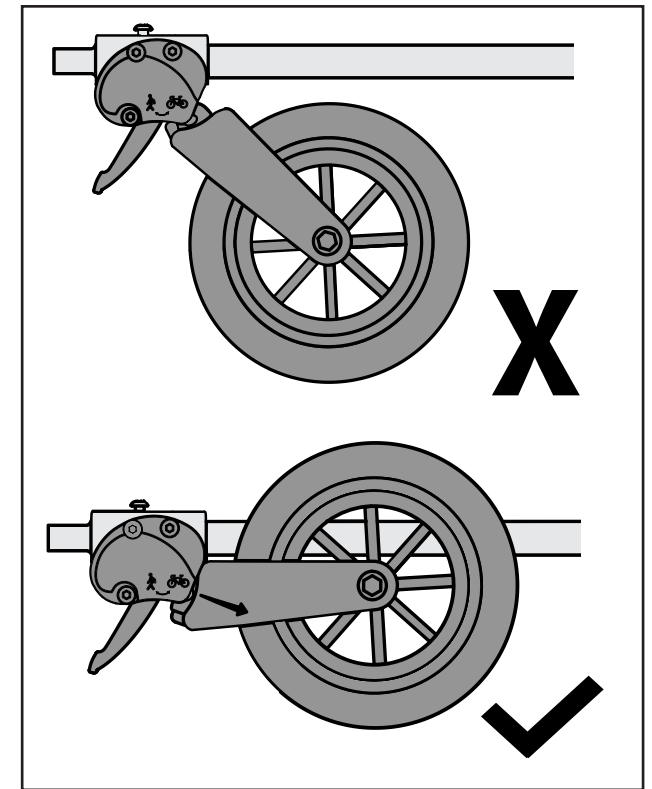

Figure 17
1. Pull fork down (Figure 16) and rotate up into trailer mode as shown. Fork will automatically lock into trailer position when positioned correctly (Figure 17).